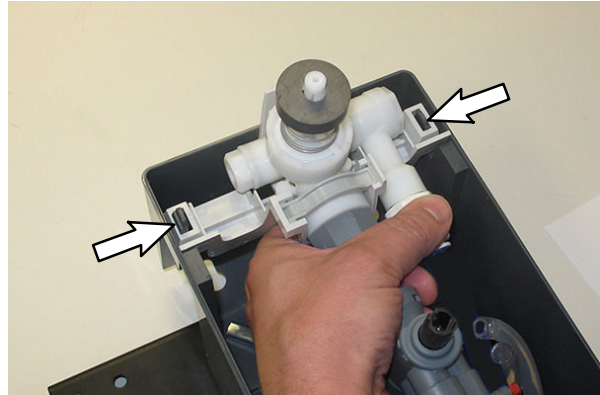
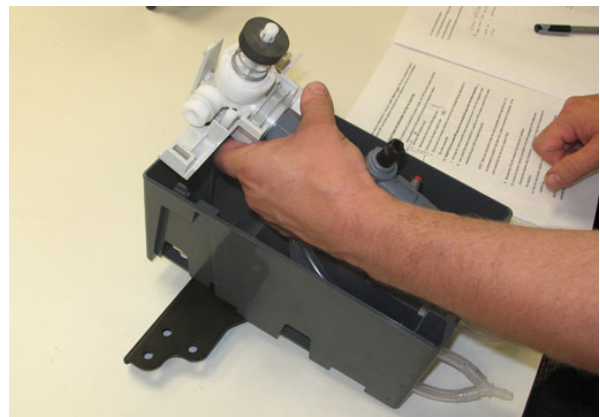

FIG. 43
FIG. 44
8. Carefully push the two tabs to the center of the dispenser to unsnap the valve assembly from the dispenser case. Remove the valve assembly from the dispenser case. (Fig. 43 / Fig. 44)
18. Reinstall the valve assembly into the dispenser case. (Fig. 43 / Fig. 44)